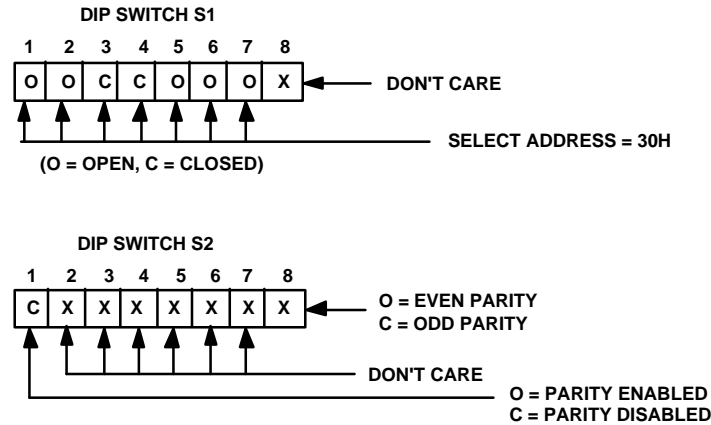

Figure 3-3. DIP Switches S1 & S2
- Set DIP switches S1 and S2 as shown in Figure 3-3.